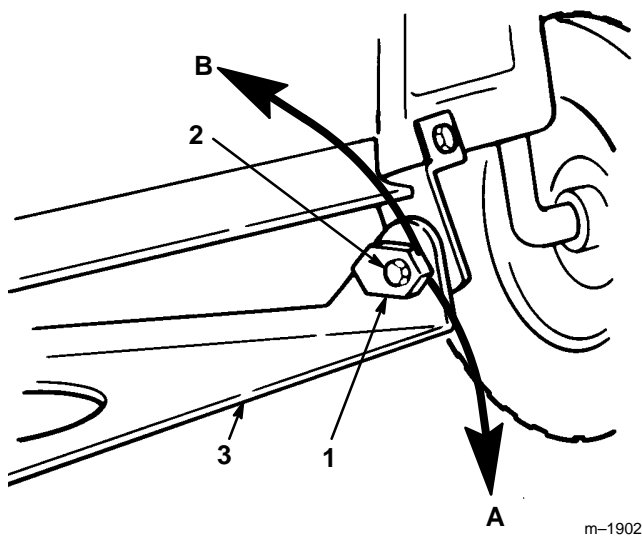

Figure 50
8. Adjust the front-to-rear slope by rotating the special slope adjusting nuts on both sides of the mower pivot mount (Fig. 50).
9. Using a 1" wrench or socket slowly rotate the left side slope adjusting nut down to raise the front of the mower and up to lower it (Fig. 50). Rotate the slope adjusting nut until the front of the mower is 1/4" to 5/8" (6 mm to 16 mm) lower than the rear of the mower.